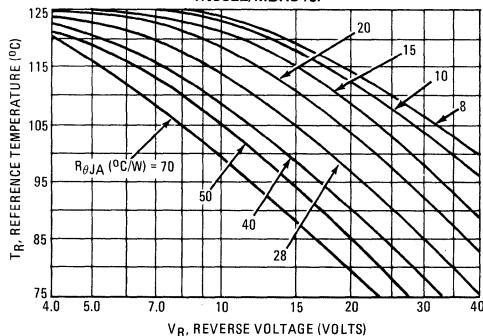

FIGURE 2 – MAXIMUM REFERENCE TEMPERATURE
Step 2. Find  $T_R$  from Figure 2. Read  $T_R = 108^\circ\text{C}$